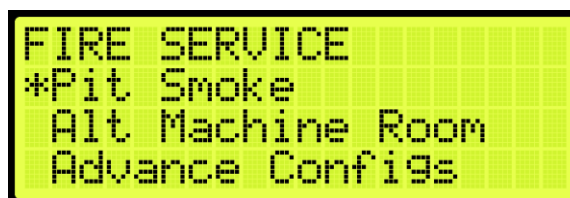

Figure 598: FIRE SERVICE Menu – PIT Smoke
- From the FIRE SERVICE menu, scroll and select PIT Smoke (See Figure 598).